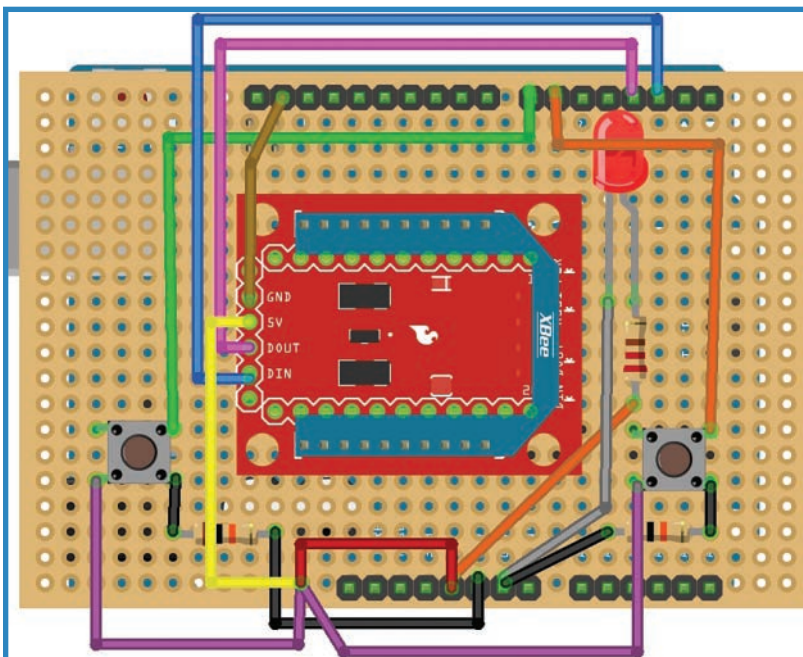

FIGURE 11.27 The buttons control the direction the boat travels.
- d. Add a pair of buttons. They each have 5V going into one lead (purple wires in Figure 11.27); the negative lead goes to a digital pin on the Arduino—pins 6 (orange wire) and 7 (green) for the two of them. Finally, connect the negative pin to ground with 2K resistors in between. This is depicted using black wires in the figure. You're done with the controller!